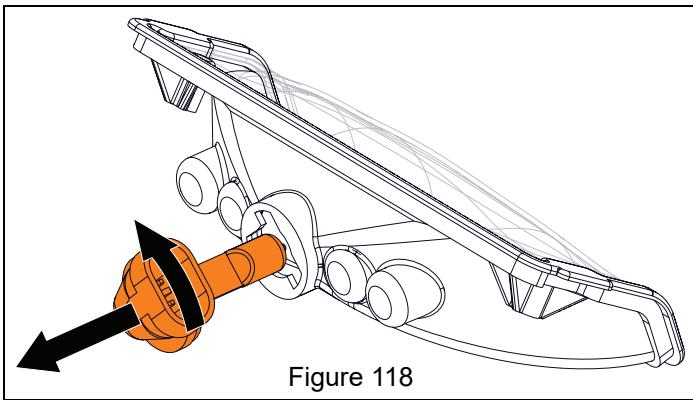

Figure 118
6. Turn bulb one-eighth turn counterclockwise and remove from headlight bezel. See Figure 118.